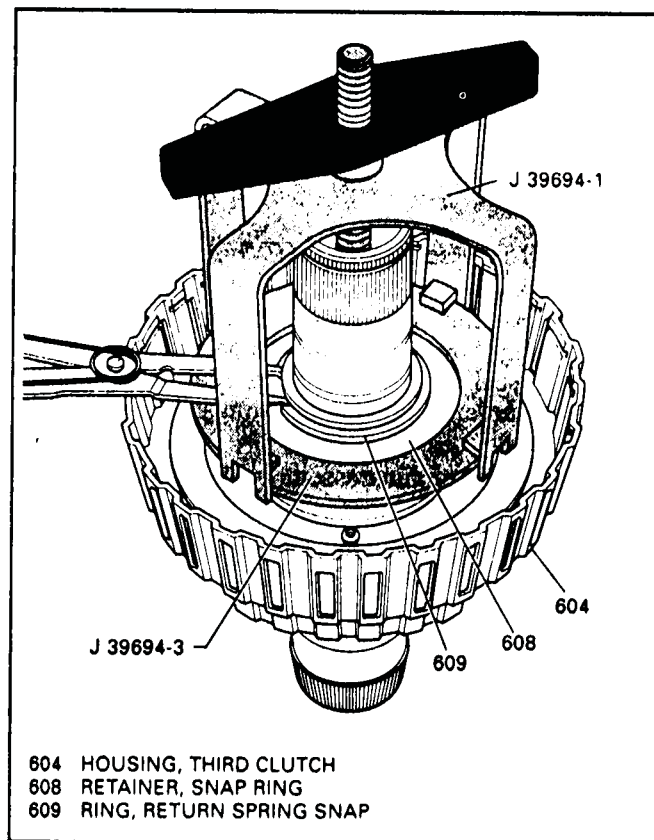

Figure 65
13. Compress the return spring using tool J-39694, as shown in Figure 65.
14. Install the snap ring as shown in Figure 65, and remove compressor.